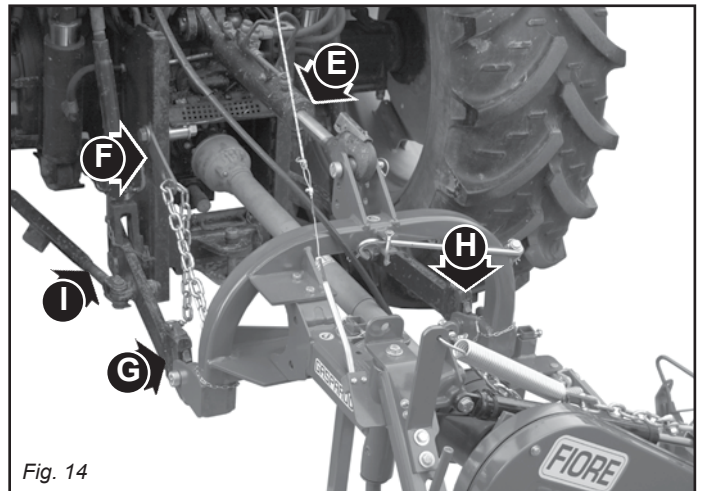
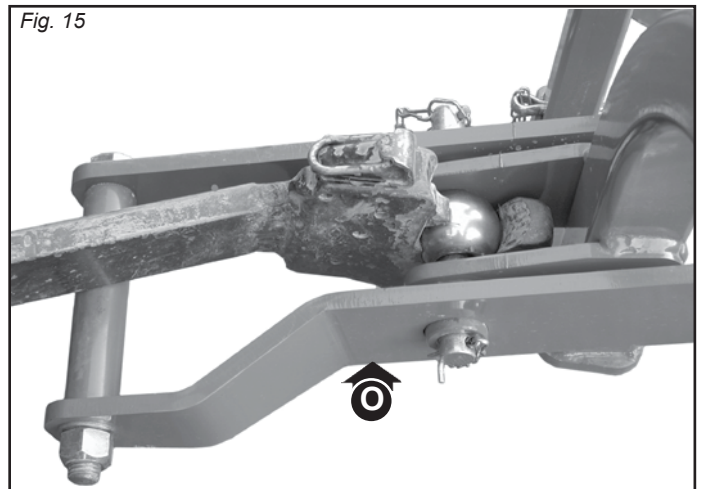

Fig. 14
Fig. 15
- 2 - Hook the oscillating arms of the tractor to pins (G and H, Fig. 14). The hoisting arm (O, Fig. 15) must be fixed underneath the tractor arm. Lock in place with the snap-in split pins.
- 3 - Connect the upper third-point and correctly regulate by means of the adjuster (E, Fig. 14). Place plate (F, Fig. 14) at the left side of the hitch integral with the same pin. Lock in place with the snap-in split pins.
- 4 - Lock the lift links using the relative chains (I, Fig. 14) and couplings parallel to the tractor. This operation must be carried out to prevent the machine from moving in a horizontal direction.